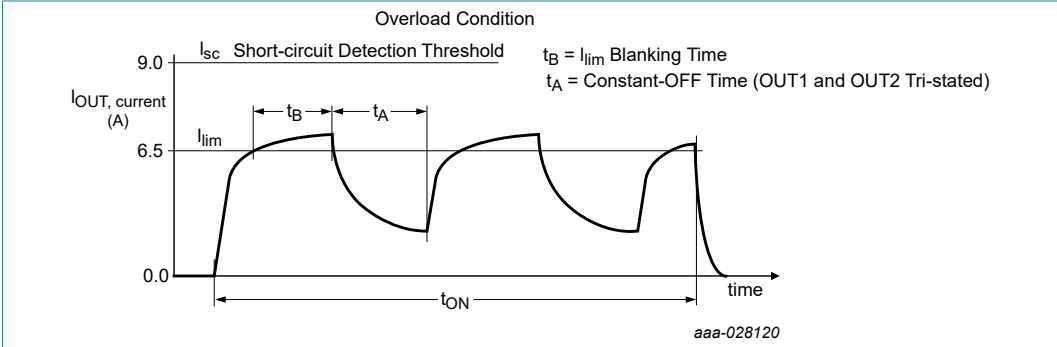

Figure 8. Current limit blanking time and constant-off time
- [8] Load currents ramping up to the current regulation threshold become limited at the I_{LIM} value (see Figure 8). The short-circuit currents possess a di/dt that ramps up to the I_{SCH} or I_{SCL} threshold during the I_{LIM} blanking time, registering as a short-circuit event detection and causing the shutdown circuitry to force the output into an immediate tri-state latch-off (see Figure 9). Operation in current limit mode may cause junction temperatures to rise. Junction